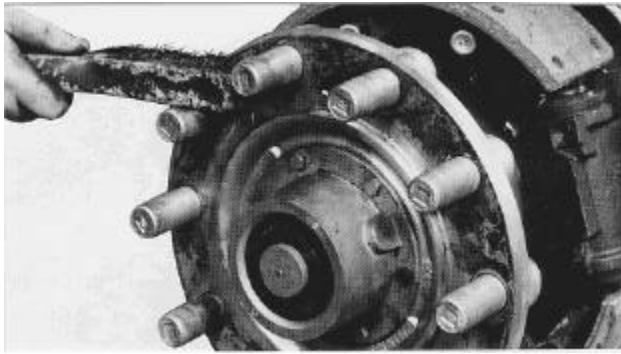

Figure 41 Cleaning Aluminum Hub
- 7. Dirty hub. Clean aluminum hub with a wire brush (Figure 41).